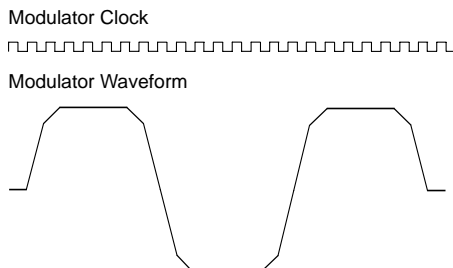
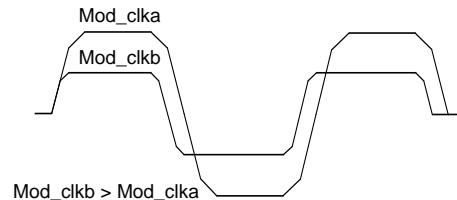

Figure 19. Modulator Waveform and Clock
Figure 20. Two Different Modulator Clock Setting
The modulator waveform is created by charging and discharging a capacitor. A modulator clock controls the timing, as shown in Figure19. For every rise-and fall edge, 4 clock periods are being used. The charging current during these 4 clock periods are not equal, this is to reduce the high frequency components in the waveform, which in turn will narrow the frequency spectrum.
where $f_{\text{MOD_CLK}}$ is the modulator clock shown in Figure 19, f_{XCO} is the crystal oscillator frequency Refclk_K is a 6 bit number and Mod_clkS is a 3 bit number. Mod_clkS can be set to a value between 0 and 7. The modulator clock frequency should be set according to the bit rate and shaping.
A $f_{\text{MOD_CLK}}$ of 8 times the bit rate (as in Figure 20) corresponds to a signal filtered in a Gaussian filter with a Bandwidth Period product (BT) of 1. When BT is increased, the waveform will be less filtered. Minimum BT is 1 ($f_{\text{MOD_CLK}}$ is 8 times the bitrate). Figure 20 shows two waveforms with BT=1 and BT=2, i.e. the $f_{\text{MOD_CLK}}$ is 8 and 16 times higher than the bit rate. When changing the BT factor, the charge-and discharge times will also be changed, and therefore the frequency deviation, as shown in Figure 19.